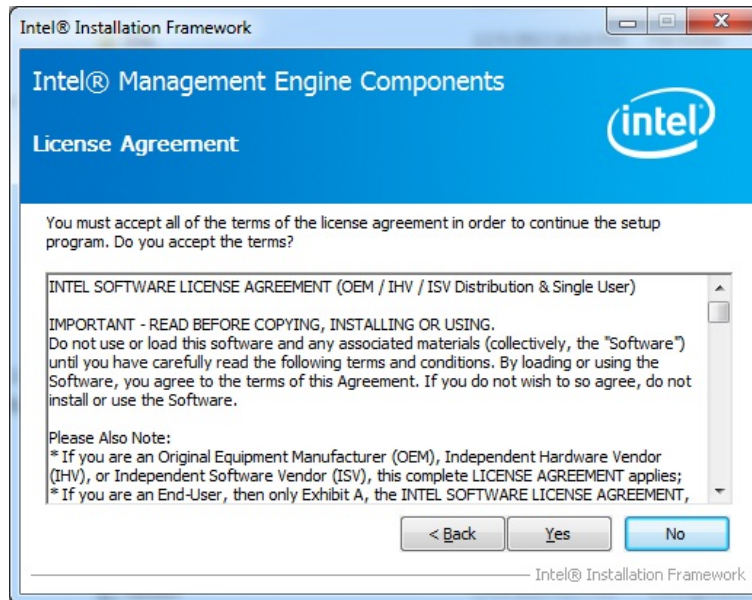

Figure 6-26: Intel® ME Driver License Agreement
Step 6: The license agreement in **Figure 6-26** appears.